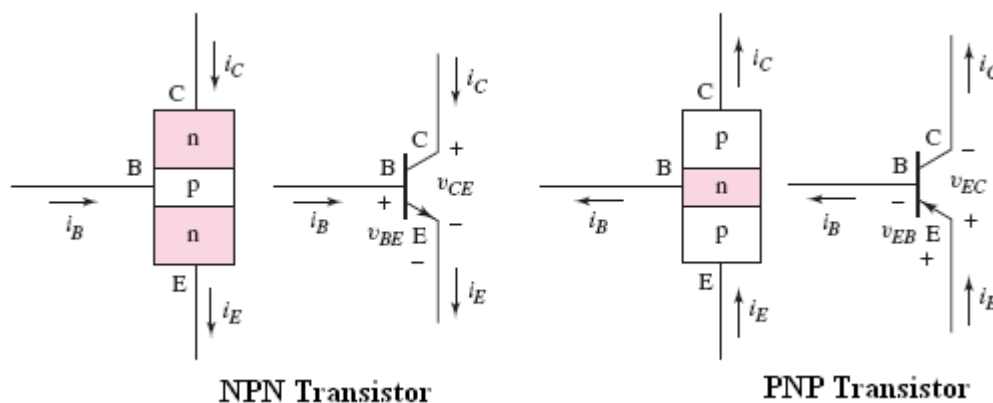
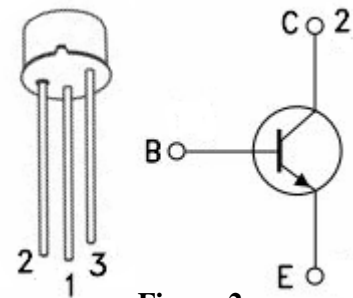

Figure 1
Figure 2
There are different sorts, shapes, and sizes of transistor. In this experiment we will consider one basic general purpose type of transistor which is the **Bipolar Junction Transistor (BJT)** that comes in two constructions called PNP and NPN as shown in Figure 1, which show the block diagram and circuit symbol for each type. For this experiment we will use the **BC107** NPN transistor which is built into a standard **TO-18** package with three leads, each lead connected to one doped region. Figure 2 show what the package looks like and identifies the three leads or terminals as **Emitter (E)**, **Collector (C)** and **Base (B)**. The basic transistor principle is that: " the voltage drop between two terminals control the currents in the third terminal".